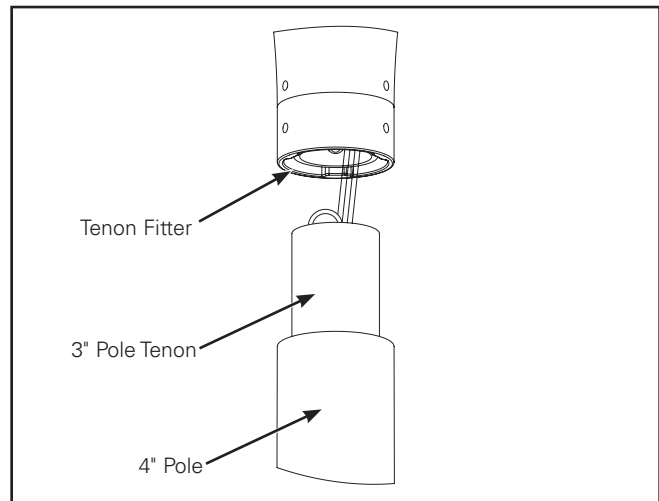

Figure 2.
- 4. Slip fit the fixture onto the tenon. (Figure 2.)